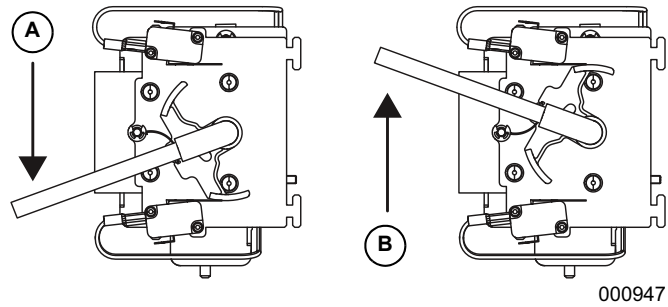

Figure 3-4. Manual Transfer Switch Operation
4. Use the manual transfer handle (A in Figure 3-4) inside the transfer switch to move the main contacts to the STANDBY position (loads connected to the standby power source, B in Figure 3-4).
5. Use the manual transfer handle inside the transfer switch to move the main contacts back to the UTILITY position (loads connected to the utility power source, A in Figure 3-4).